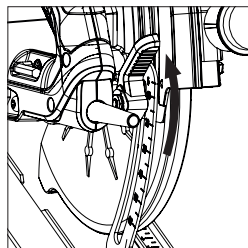

Fig. 10
- Loosen the Depth Adjustment Locking Mechanism by pulling the operating lever upwards. **(Fig. 10)** (CCSL shown. All other models are similar).